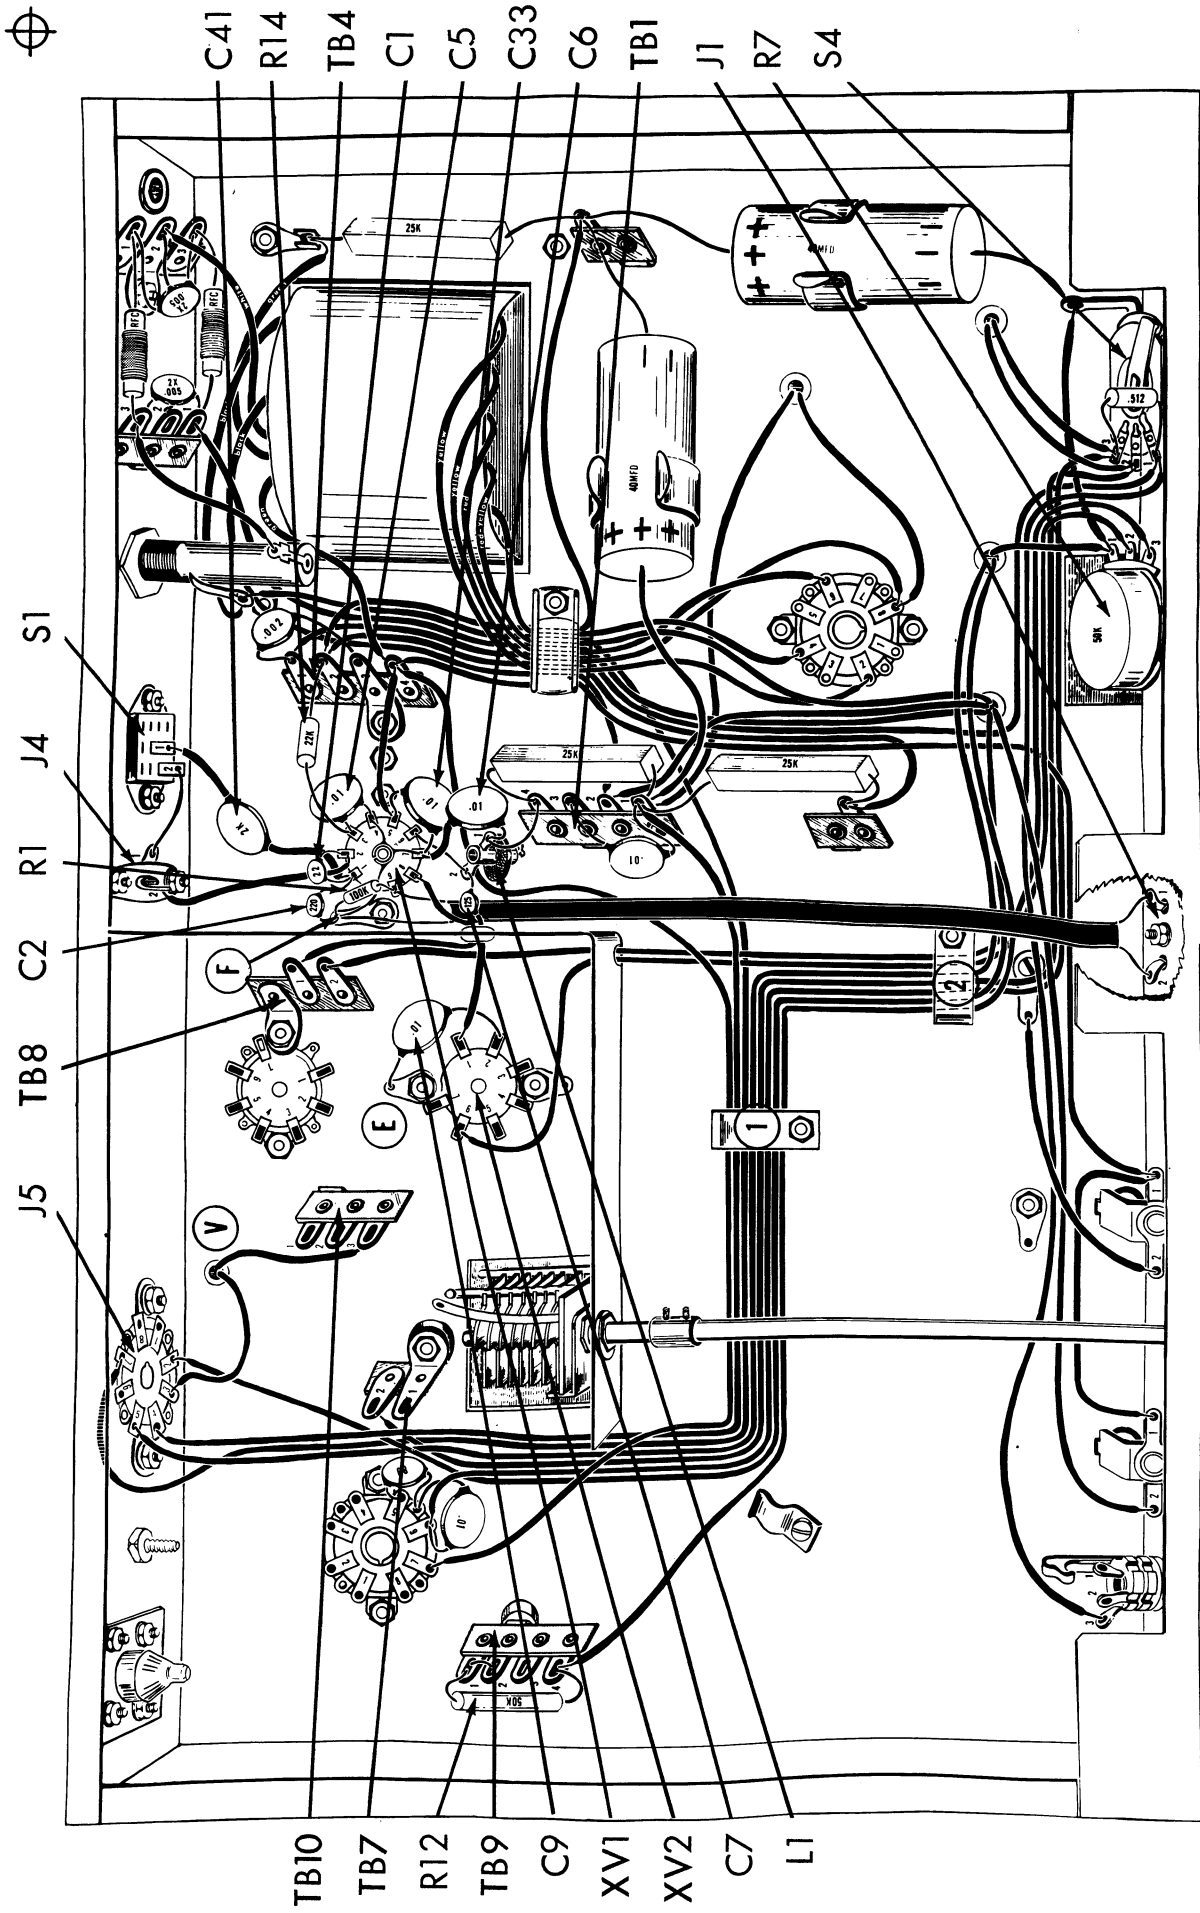

Fig. 6
1. (✓) Fig. 6. L1 is an 18 microhenry choke with a slug adjustment, previously mounted on the chassis next to XV1. The form holding the choke coil should be so oriented that one lug is close to TB1 and the second lug is close to pin 6 of XV1. Designate the lug near TB1 as L1-1 and the lug near XV1 as L1-2. Connect a 3/4" piece of bare wire from TB1-4 (S2) to L1-1 (C). Connect a second 3/4" piece of bare wire from L1-2 (C) to XV1-6 (S).
2. (✓) Fig. 6. Cut both leads on a .01 mfd (10K or 10,000 mmf) disc capacitor, C9, to 3/4". Cover each lead with a 1/2" piece of spaghetti. Connect from XV2-2 (C) to ground lug "E" (C).
- 2a. (✓) Fig. 6. Prepare a piece of 300 ohm twin line wire as follows. Cut an 8 1/2" piece of the dual wire. On one end, cut out the insulation for a 1 1/4" length between the two conductors, without removing the insulation from around the conductor. Then strip back the insulation 1/4" from the end of one of these conductors and connect this to ground lug "F" (C). On the same end of the wire, cut the second conductor to a 3/4" length and strip the insulation back 1/4". Connect this to XV1-9 (C). On the other end of the same piece of dual wire, cut out the insulation for a 3/4" length between the two conductors without removing the insulation from around the conductor. Strip back the insulation 1/4" from the ends of both of these conductors. Without twisting the twin line, connect one of these conductors to J1-1 (S1) and the second conductor to J1-2 (S1). DO NOT apply excess heat or insulation will melt.
3. (✓) Fig. 6. Cut one lead on a 125 mmf disc capacitor, C7, to 1/2". Connect this end to L1-2 (S2). Cut the other lead to 1 3/4". Cover this lead with a 1 1/2" piece of spaghetti. Push this lead through the hole in the side of the bottom shield and connect to XV2-1 (C).
4. (✓) Fig. 6. Cut all leads on two .01 mfd (10K or 10,000 mmf) disc capacitors, C5 and C33, to 1/2". Connect one from XV1-3 (C) to XV1-4 (C). Connect the second from XV1-5 (C) to XV1-7 (C).
5. (✓) Fig. 6. Cut both leads on a .01 mfd (10K or 10,000 mmf) disc capacitor, C6, to 3/4". Connect one lead to L1-1 (S2). Cover the second lead with a 1/2" piece of spaghetti and connect to XV1-7 (C).
6. (✓) Fig. 6. Connect a 1 1/2" piece of green wire from TB4-4 (S4) to XV1-5 (S2).
7. (✓) Fig. 6. Cut both leads on a 22KΩ (red, red, orange, silver) 1 watt resistor, R14, to 3/4". Connect from TB4-2 (S3) to XV1-3 (S2).
8. (✓) Fig. 6. Cut both leads on a 220 mmf disc capacitor, C2, to 1/2". Connect from XV1-1 (C) to ground lug "F" (C).
9. (✓) Fig. 6. Cut both leads on a .002 mfd (2K or 2000 mmf) disc capacitor, C41, to 1". Cover both leads with a 3/4" piece of spaghetti. Connect from S1-1 (S1) to XV1-1 (C).
10. (✓) Fig. 6. Connect a 3/4" piece of bare wire from S1-2 (S1) to J4-1 (S1).
11. (✓) Fig. 6. Connect a 2 1/4" piece of yellow wire from J4-2 (S1) to XV1-2 (C).
12. (✓) Fig. 6. Connect a 3/4" piece of bare wire from the center pin (C) on XV1 to ground lug "F" (C).
13. (✓) Fig. 6. Cut both leads on a 100KΩ (brown, black, yellow, silver) resistor, R1, to 1/2". Connect from XV1-9 (S2) to ground lug "F" (S4). DO NOT apply excess heat or twin lead insulation will melt.
14. (✓) Fig. 6. Cut both leads on a 22 mmf disc capacitor, C1, to 1/2". Connect from XV1-2 (S2) to XV1-1 (C).
15. (✓) Fig. 6. Connect one end of a 3" piece of yellow wire to XV1-8 (S1). Run through the hole in the side of the bottom shield and connect the other end to TB8-1 (C).
16. (✓) Fig. 6. Connect a 3/4" piece of bare wire from the center pin (C) on XV1 to XV1-4 (S2).
17. (✓) Fig. 6. Connect a 3/4" piece of bare wire from the center pin (S3) on XV1 to XV1-7 (S3).
18. (✓) Fig. 6. Connect a 3/4" piece of bare wire from TB9-1 (C) to TB9-2 (S1).
19. (✓) Fig. 6. Cut both leads on a 50KΩ, 10 watt, wire-wound resistor, R12, to 3/4". Connect from TB9-1 (C) to TB9-4 (C).
20. (✓) Fig. 6. Connect the orange lead from hole "V" to TB10-3 (C).
21. (✓) Fig. 6. Connect the red lead from hole "V" to J5-3 (C).